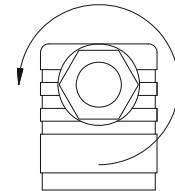

Fig. 9
- ↳ Loosen the screwed cable gland ⑤ M16x1,5 (→ Fig. 9).